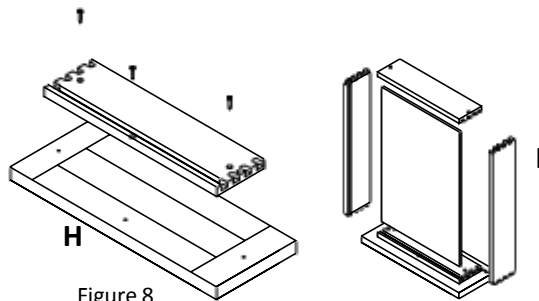

Figure 8
**7. Drawer Assembly (Figure 8):** Firstly assemble the drawer front (H) with drawer box front by using screws. And then assemble the rest parts of drawer box (I) (Repeat this step for more drawers).